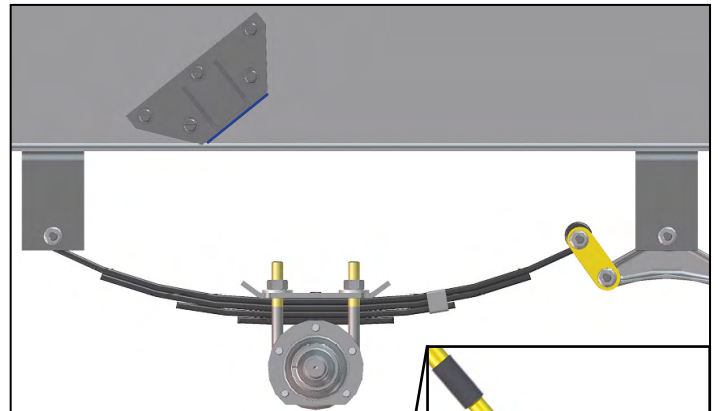

Fig. 6
- Use the 3/8" self-tapping bolts to secure the upper shock mounting bracket to the I-beam (Fig. 6).